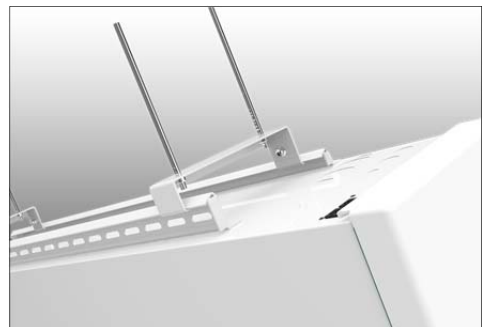

Fig 7
**Step 4** Hook each ceiling bracket into top rear and front hanging system rails as shown in Fig7.